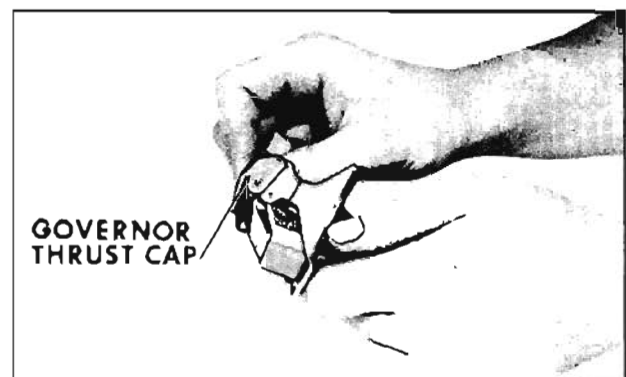

Fig. 6-380 Installing Thrust Cap
5. Install governor thrust cap. (Fig. 6-380)